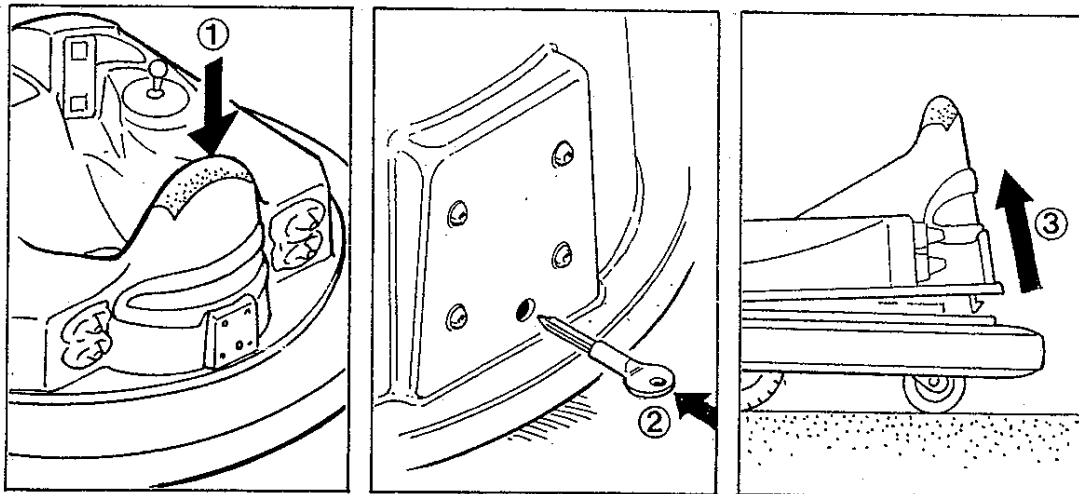

Fig 6 - How to Open the Orbiter Body
In most cases the ORBITER Control Units will be shipped ready mounted in the Orbiters. The body should be opened using the key supplied (Fig 6 item ②) and the ORBITER Control Unit checked for any damage.